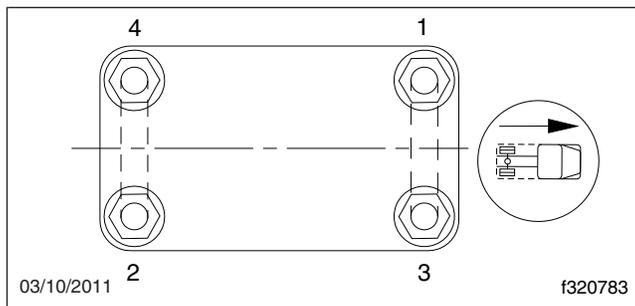

Fig. 6, Tightening Sequence for U-Bolt High Nuts
2. Check the U-bolt torque in a diagonal pattern. See **Fig. 6**. Set a click-type torque wrench to the highest torque value for the fastener being checked. See **Table 3** for U-bolt torque specifications. Turn the wrench in a clockwise motion (looking up) until the torque wrench clicks.
* Tighten in the sequence shown in **Fig. 6**.